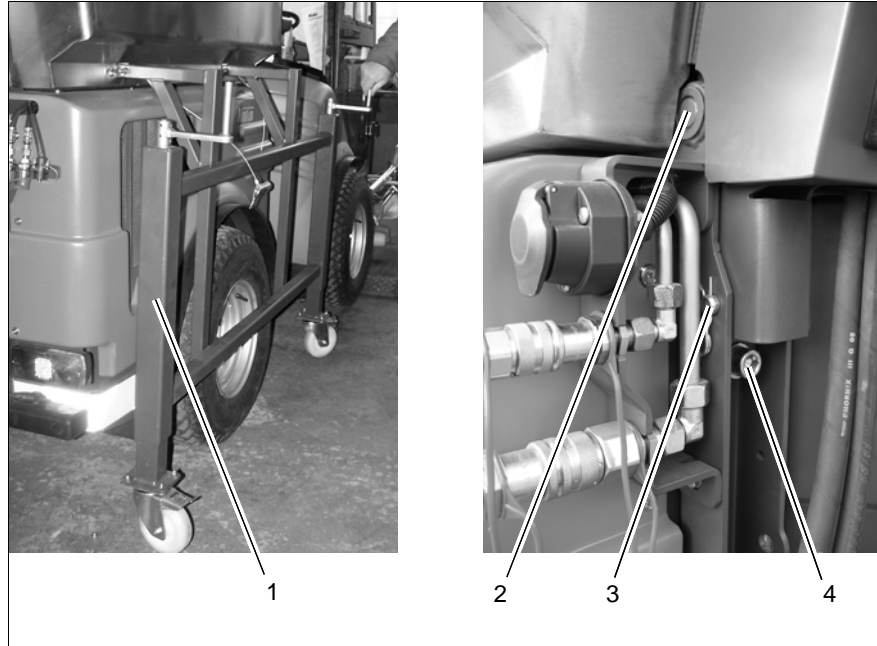

Fig8
- Take hopper with stand (Fig. 8/1) above the rear cart. Provide for sufficient clearance!
- Plug bolts (Fig. 8/2) and (Fig. 8/3) to the rear support and mount by means of SW14 hexagon socket screws (Fig. 8/4). Secure bolts by means of oval flange bolts or wire pins.
- Remove stand (Fig. 8/1)